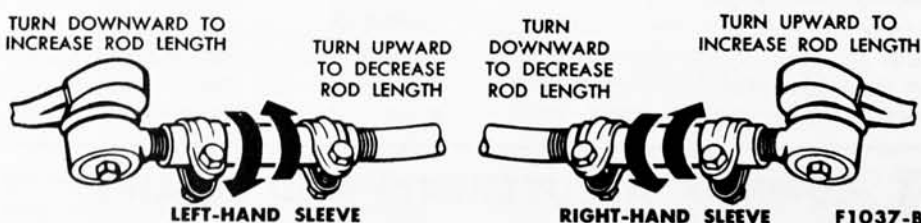

FIG. 7—Spindle Connecting Rod Adjustments
2. Adjust toe-in. If the steering wheel spokes are in their normal position, lengthen or shorten both rods equally to obtain correct toe-in (Fig. 7). If the steering wheel spokes are not in their normal position, make the necessary rod adjustments to obtain correct toe-in and steering wheel spoke alignment (Fig. 8).